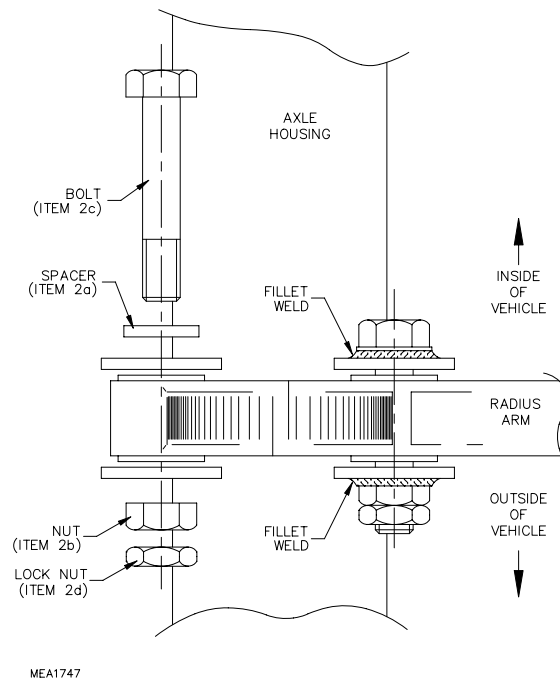

Figure 2 Radius Arm Mounts
- (1) Using a grinder or file, clean the outside surface of the axle assembly mounts for the radius arms.
- (2) Fit Items 2a, 2b and 2c from Table 1 to the axle case mounts, ensuring that the bolts are installed from the inside facing out and are parallel to the axle casing (Figure 2).
- (3) Tighten the bolts firmly.
- (4) Weld the inside spacers and outside nuts to the axle casing mounts, as shown in Figure 2, with a 3 mm continuous fillet weld using either:
- (5) Remove the bolts and paint all bare metal surfaces.